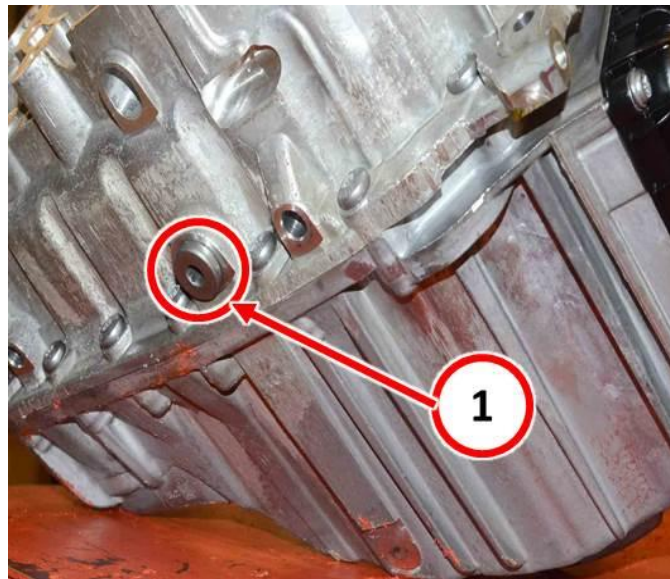
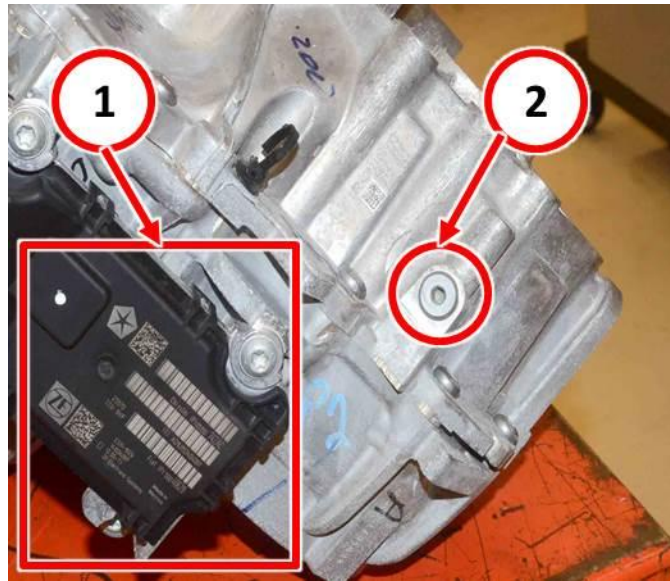
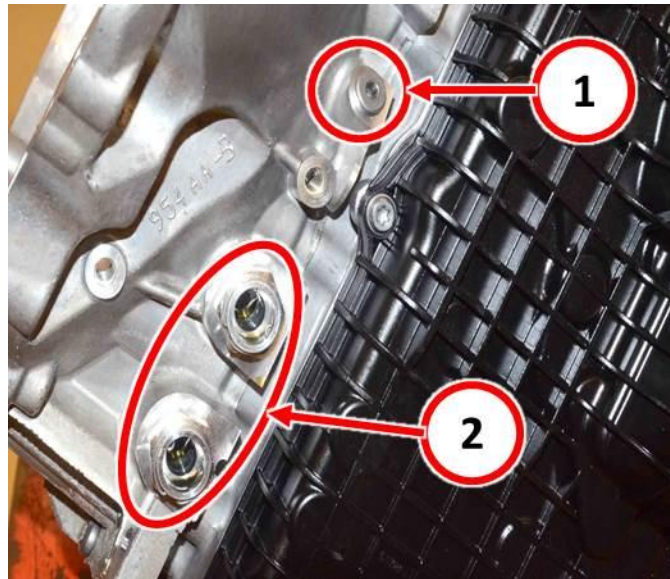

Fig. 1 Transmission Fluid Drain Plug
Fig. 2 Transmission Production Fill Port
Fig. 3 Torque Converter Pressure Port
3. Remove the transmission drain plug, production fill plug and torque converter pressure port plugs from the bell housing and drain all transmission fluid. See (Fig. 1), (Fig. 2), and (Fig. 3).